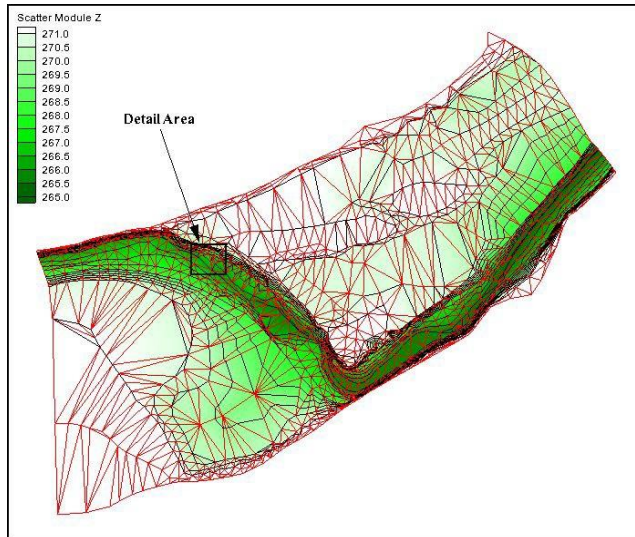

Figure 5 Manual swap detail area
11. **Zoom**  to the detail area as shown in Figure 5.